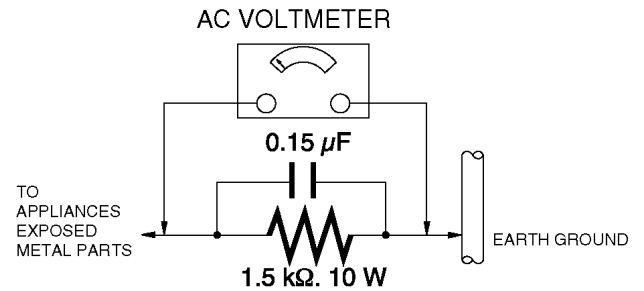

Figure. 1
| 1.3. Leakage Current Hot Check (See Figure 1.) | 3 | 8 Disassembly and Assembly Instructions | 22 |
1.3. Leakage Current Hot Check (See Figure 1.)
2. Connect a $1.5\text{ k}\Omega$, 10 W resistor, in parallel with a $0.15\text{ }\mu\text{F}$ capacitor, between each exposed metallic part on the set and a good earth ground, as shown in Figure 1.